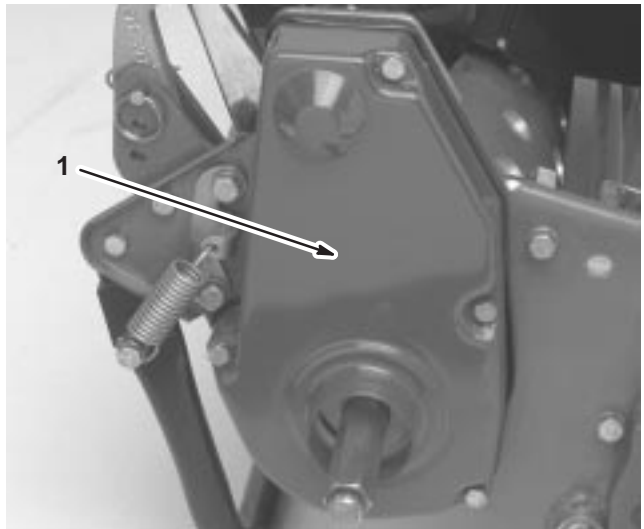

Figure 37
1. Remove the belt cover mounting screws and belt cover to expose the belt (Fig. 37).